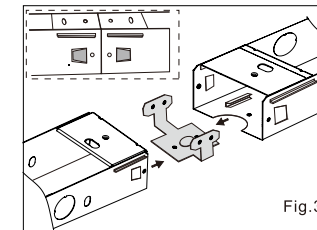

Fig.3
3. Install the connecting bracket to fixture channel, and make sure the connecting bracket is well installed. (Fig 3)